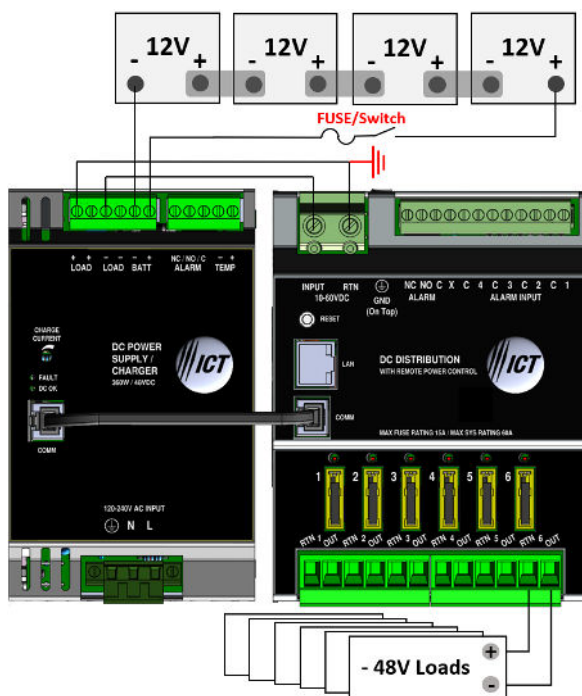

Figure 2. - 48V system Connection Diagram of ICT DIN Series (POS Ground System)
- For a Positive-ground system, connect the power supply LOAD (+) output terminal to the “RTN” terminal which is connected to the earth ground and connect the power supply LOAD (-) output terminal to the input terminal like figure 2. Note that the ICT DIN Power Supply can be connected to an ICT DIN Power Distribution Unit as either a negative or positive-ground system.
- If the power supply is used in combination with an ICT DIN Power Distribution Unit (ICT-DIN-PDU6), the serial data cable (provided with the PDU6) can be installed to allow the Power Distribution Unit to monitor the status of the power supply. Install the power supply and Power Distribution Unit side by side, then connect the two RJ-11 COMM ports together using the data cable, as shown in Figure 2. The green “DC OK” LED will blink once every 10 seconds if the data connection is functioning properly.